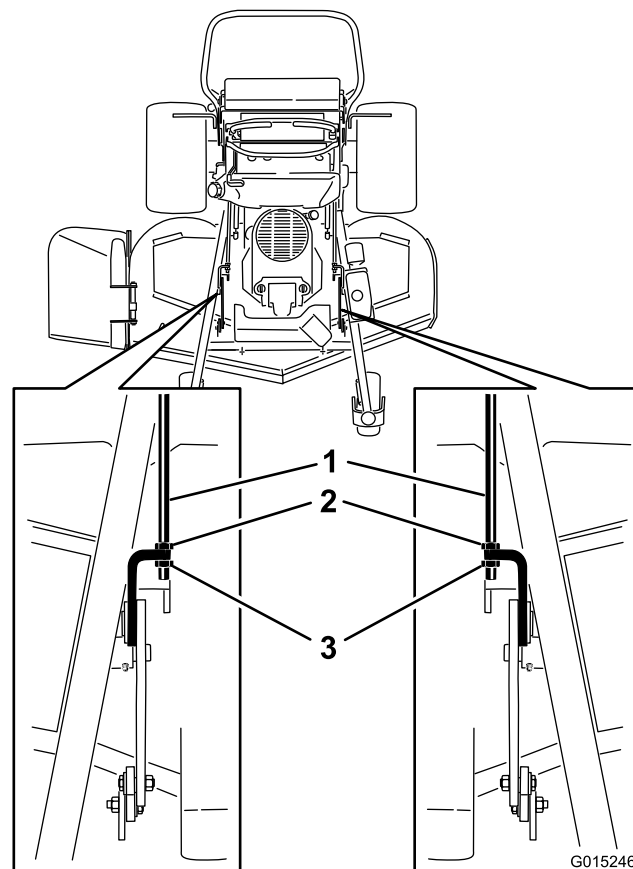

Figure 95
3. For 48 and 52-inch mower decks, loosen both the front and rear nuts on the adjustment rods (Figure 95).
Note: The weight of the mower deck must be resting on all 3 of the 2x4 pieces (Figure 95).
8. If the dimensions are not correct, adjust the front and rear nuts on either side to get the correct front-to-rear pitch (Figure 95).